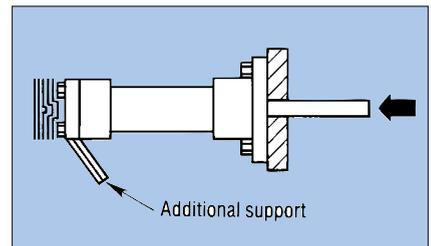

Fig. 17. An overhung cylinder needs additional support to prevent cylinder movement at non-flange end. Cylinder length changes with pressure and temperature.
- Cylinders with non-centerline mountings often require stronger machine members to resist bending, so consider the rigidity of the machine frame. For example, where one end of a cylinder must be overhung, Figure 17, an additional supporting member should be provided.